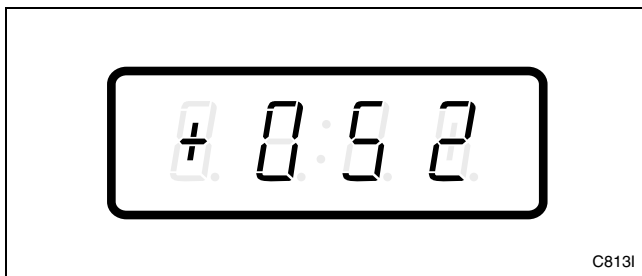

Figure 184
3. Press the LOW TEMP (+) or the NO HEAT (-) keypad to scroll through the programmable options until “+052” appears in the VFD. Refer to *Figure 184*.